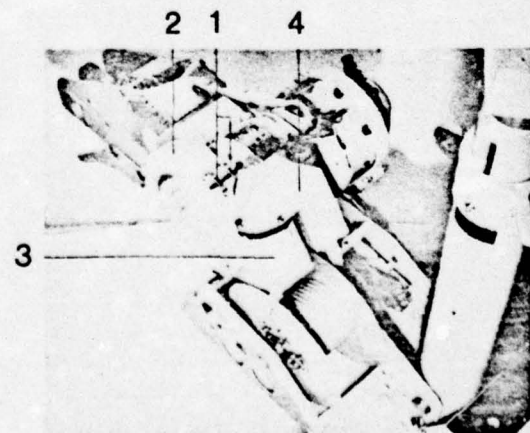

Figure 3.24
1. After loosening the two top cheesehead screws M4 x 25 DIN 912 (1, Figure 3.24), remove upper clamping collar (2, Figure 3.24) and lower clamping collar along with fan (3, Figure 3.24).
7. Insert upper and lower clamping collar into the guide groove and, after inserting two cheesehead screws (1, Figure 3.24), rotate counterclockwise until contact with the intake canal (4, Figure 3.24) against the lugs of the motor mount. In this position, the openings of the fan canals are located above the corresponding escapes of the hoisting gear motor.
8. Tighten the two upper cheesehead screws (1, Figure 3.24).